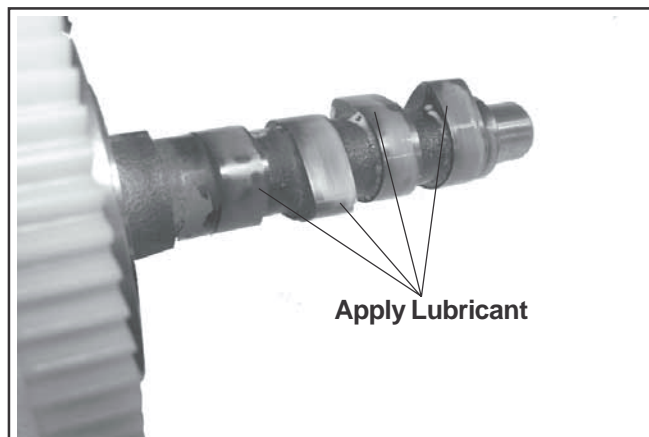

Figure 10-21. Apply Camshaft Lubricant to Cam Lobes.
1. Liberally apply camshaft lubricant (see Section 2) to each of the cam lobes. Lubricate the camshaft bearing surfaces of the crankcase and the camshaft with engine oil. See Figure 10-21.